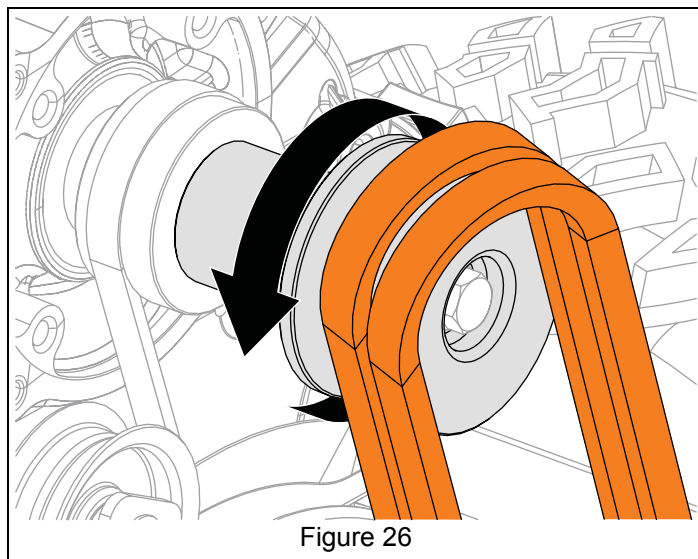

Figure 26
4. Remove attachment drive belts from attachment drive pulley. See Figure 26.